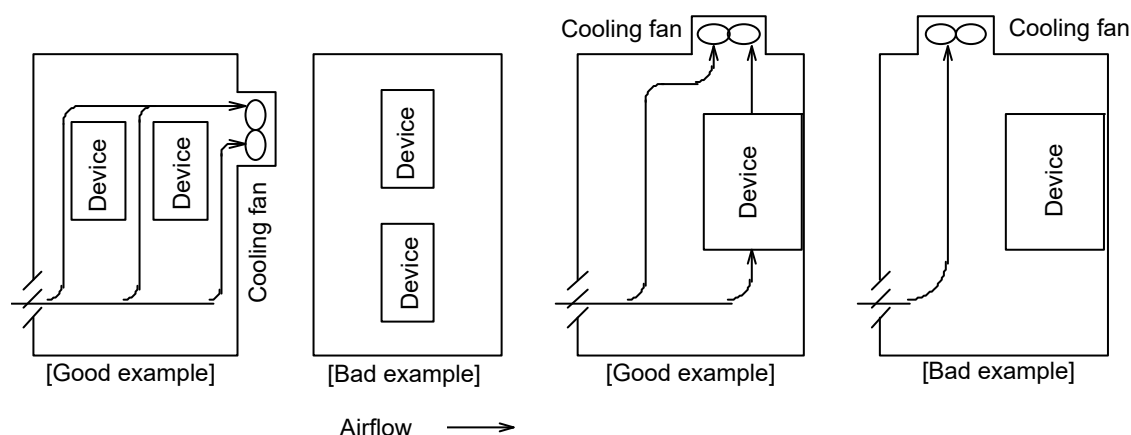

Figure 2-1 Alignment example when storing plural devices
- (1) As for the ambient conditions of the device, refer to [12-1-2 General specification].
- (2) The device lifetime has a close relation with the temperature in use, and a use under the high temperature and high humidity environment may shorten the device lifetime. Generally it is said that an increase of 10°C in temperature can shorten the lifetime of equipment to half.
- (3) For the temperature inside the storage control panel, consider the surrounding temperature and the temperature increase due to a loss in the device and in the equipment inside the panel. Be sure to keep the surrounding temperature of the device within the permissible range. Calorific value of the device due to loss is about 7% + 50W of the motor capacity.
- (4) As the device is equipped with a fan to cool the radiator, secure an opening not to block airflow. When storing plural devices, align them so that ventilation does not influence each other. (Refer to Figure 2-1).
- (5) If there are nearby heating elements and vibrating sources, prepare an appropriate construction against the influence.
- (6) Do not install the product in a place of high temperature and high humidity or in places where excessive dust particles, metal powder, and cloud of steam exist, and in an environment where corrosive gas exists.
- (7) If there is a noise generation source such as a nearby electric welding machine, reinforce the grounding treatment to avoid mixture of induction noises. Depending on the using conditions, a noise filter may be required. Conduct the noise prevention measures, referring to [3-6 Noise protection].